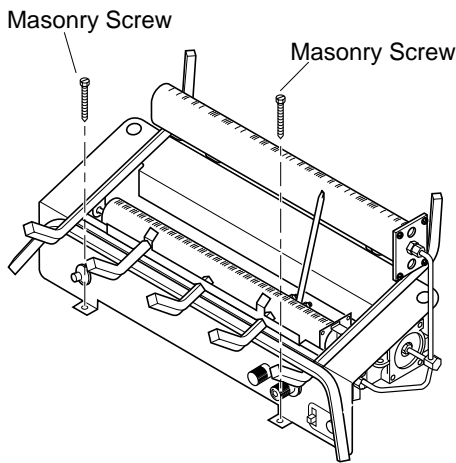

Figure 12 - Attaching Base to Fireplace Floor
7. Mark screw locations through holes in front panel of base (see Figure 12, page 11). If installing in a brick-bottom fireplace, mark screw locations in mortar joint of bricks.